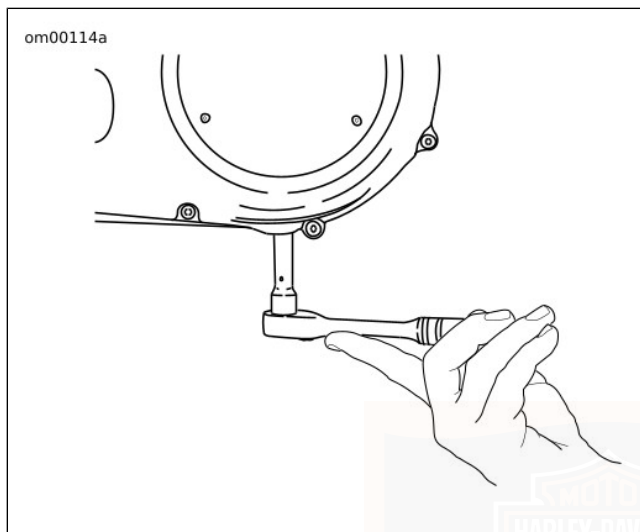

Figure 34. Removing Chaincase Drain Plug
3. See Figure 34. Remove magnetic drain plug at bottom of inner primary chaincase cover. Drain lubricant into suitable container.